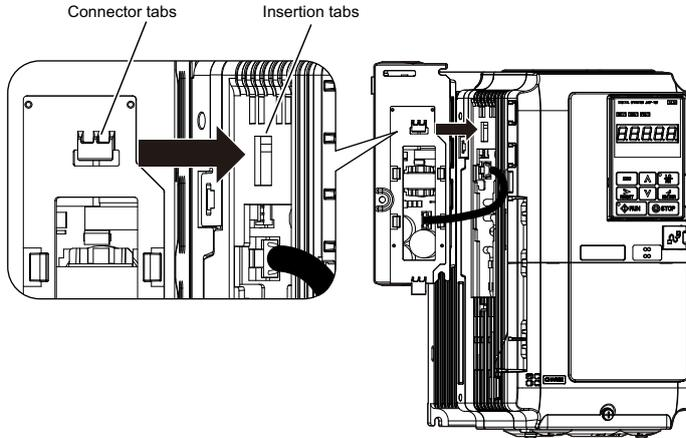

Figure 9 Location of Tabs
1. Align the connector tabs on the 24 V Power Supply Option with the insertion tabs on the drive as shown in **Figure 9**.